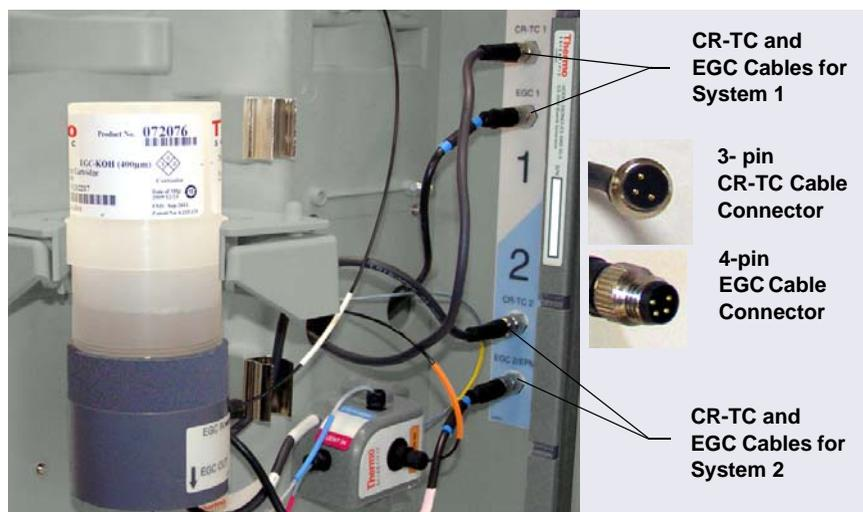

Figure 3-4. Dionex EGC and CR-TC Electrical Cables Installed (Capillary Dionex EGC Version Shown)
- a. Align the three pins inside the Dionex CR-TC cable connector with the holes in the **CR-TC 1** (or **CR-TC 2**) bulkhead connector. Push the cable connector firmly onto the connector (see Figure 3-4). Twist the locking ring on the cable connector fingertight to secure it.
- b. Align the four pins inside the Dionex EGC cable connector with the holes in the **EGC 1** (or **EGC 2**) bulkhead connector. Push the cable connector firmly onto the bulkhead connector (see Figure 3-4). Twist the ring on the cable connector fingertight to secure it.